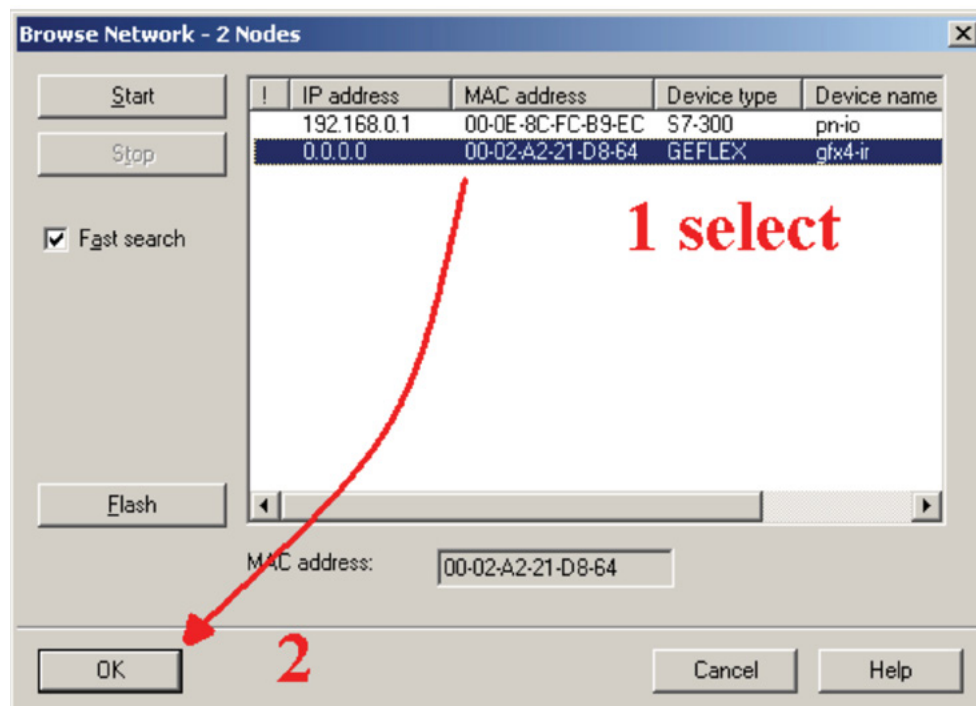

Figure 12
To change the settings (Figure 12) of the GFX4-IR, select the line with Device type = GEFLEX (1) and confirm with OK (2)